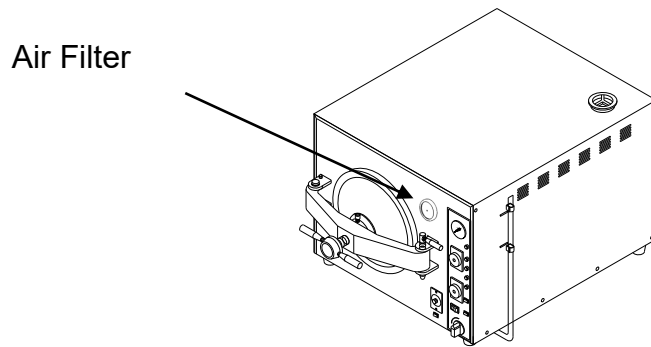

Figure 30
- Check the air filter (see “Figure 30”) and replace with a new one if the color shown dark gray.